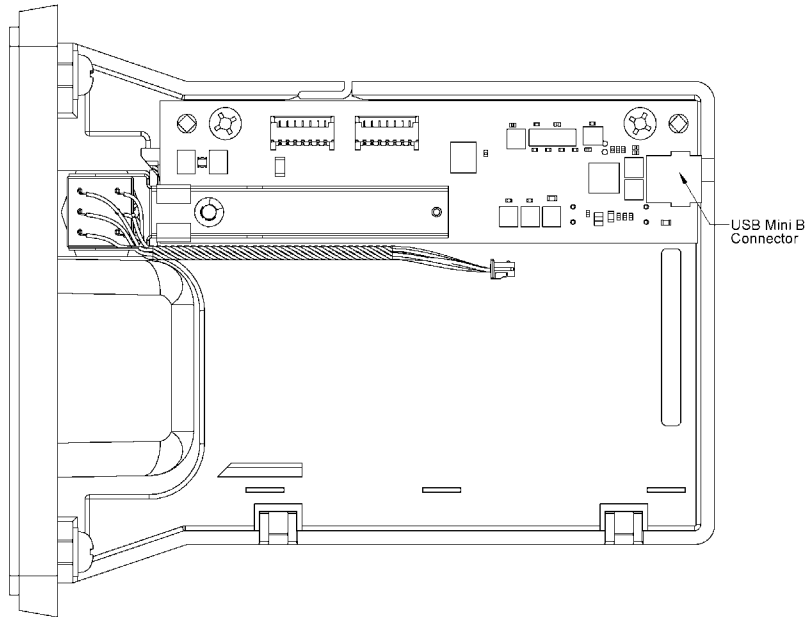

**Figure 2-1. Cabling for 2-track Models**
Connect the optional USB cable to a USB port on the host. The reader and optional cable connectors are shown in Figures 2-1 and 2-2.
The 5-pin connections between the Reader and the USB connector shown in Figure 2-1 are listed in Table 2-1. The connector part number on the PCB is Molex 53048-0510.
Figure 2-1 shows the board layout and indicates the cable connections.
*As shown in Figure 2-1, there is also a cable connector, which may add to the length of the unit. If used as shown, approximately 1.5" inch is added to the length of the unit.*